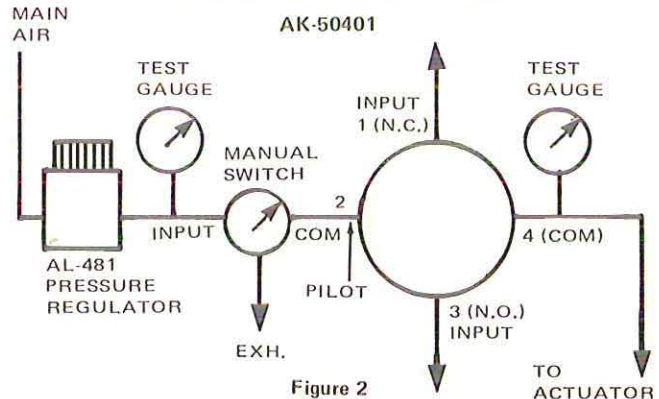

Figure 2
1. Determine the pilot pressure at which it is desired to have the N.C. (1) port connected to the Com. (4) port, on an increase in pilot pressure.
2. Referring to Figure 2, connect manual switch in the pilot line, and connect to port 2, and supply it with air from a pressure regulator.